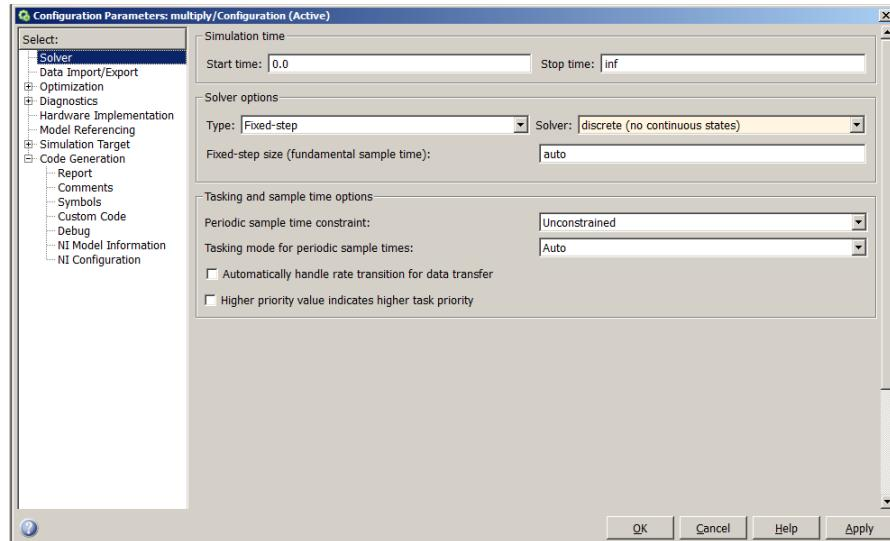

Figure 7: Simulink model configuration - solver
2. Configure solver as in Figure 7.